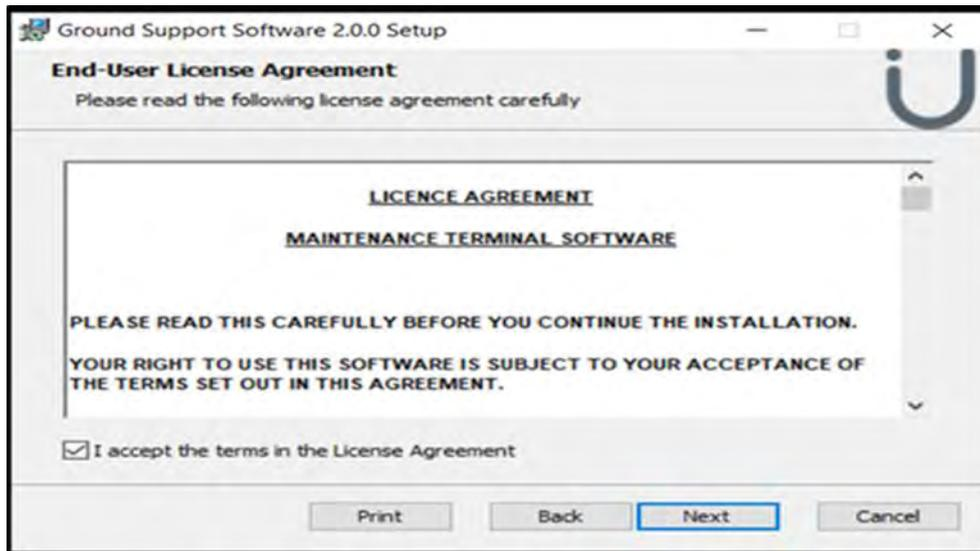

Figure 2-4 End User Licence
- (g) The End User Licence Agreement screen will follow and you will need to accept terms in the Licence Agreement and press next to continue. **(Ref Fig 2-4)**